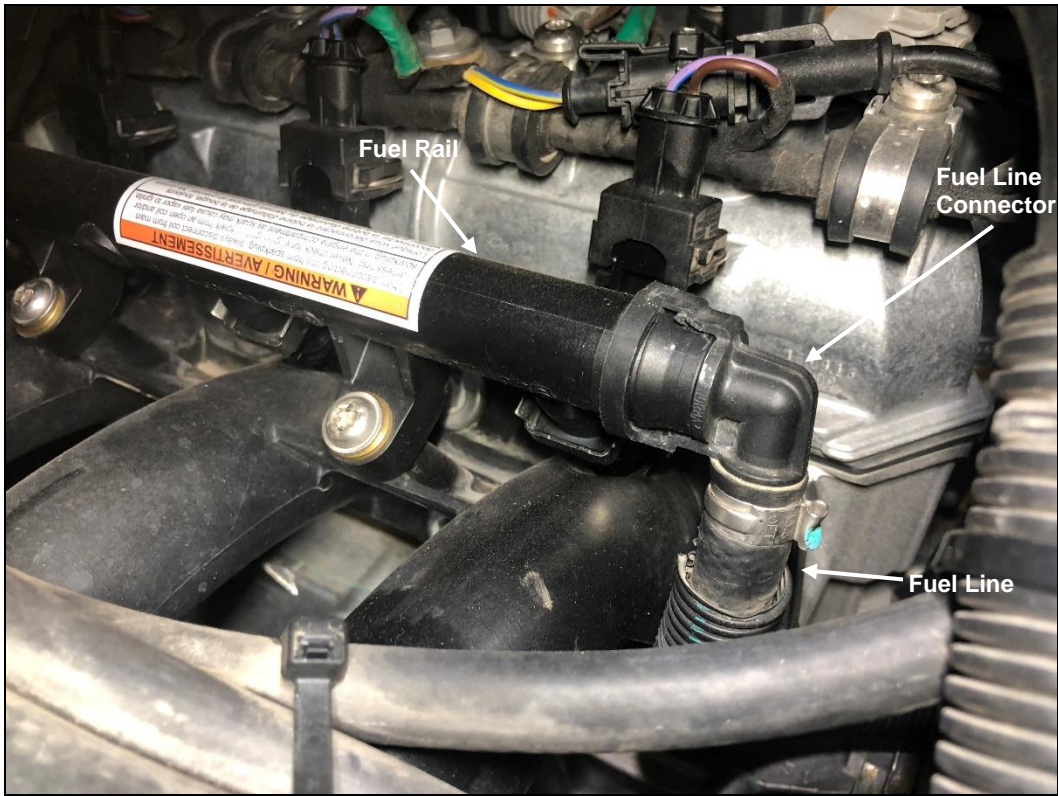

Figure 13 – Fuel Line Connection
3. Remove OEM clamp from Fuel line connector seen in **Figure 13** and separate hose from connector. (This process is to retain the factory length of fuel line in the event of removal of nitrous kit)